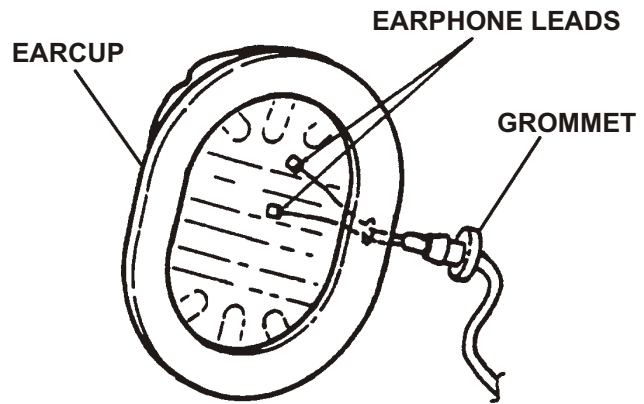

Figure 3-4. Earphone Leads Inserted into Earcup
7. Referring to Figure 3-4, install the earphone leads and grommet into the hole of the earcup. Secure the grommet.